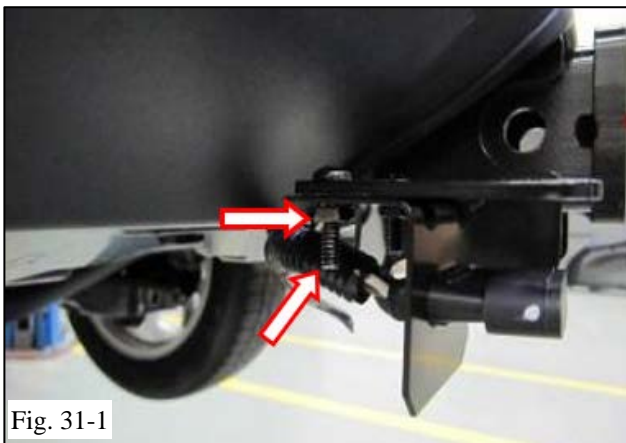

Fig. 31-1
- (a) Attach 4-Flat Connector with Mounting Bracket 4-Flat (Item #2 from Kit Contents) into hitch bracket, using 2 sets of provided Screws #10-24 and Nut/Washer#10-24 (Items #2 and #3 from Hardware Bag). (Fig. 31-1).